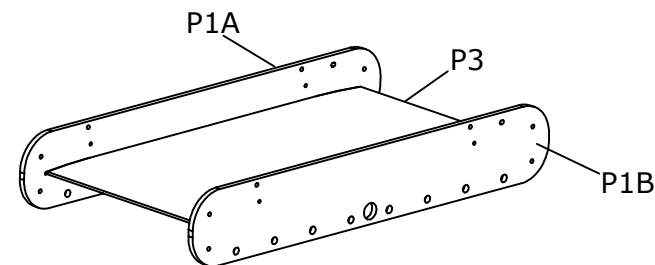

FIGURE 1
- Slide playfield **P3** into the groove on the side panels **P1A/P1B** with graphics facing down. See **figure 1**.